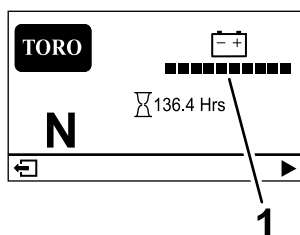

Figure 25
- **Main information screen (Figure 25):** shows current machine information while the key is in the ON position.